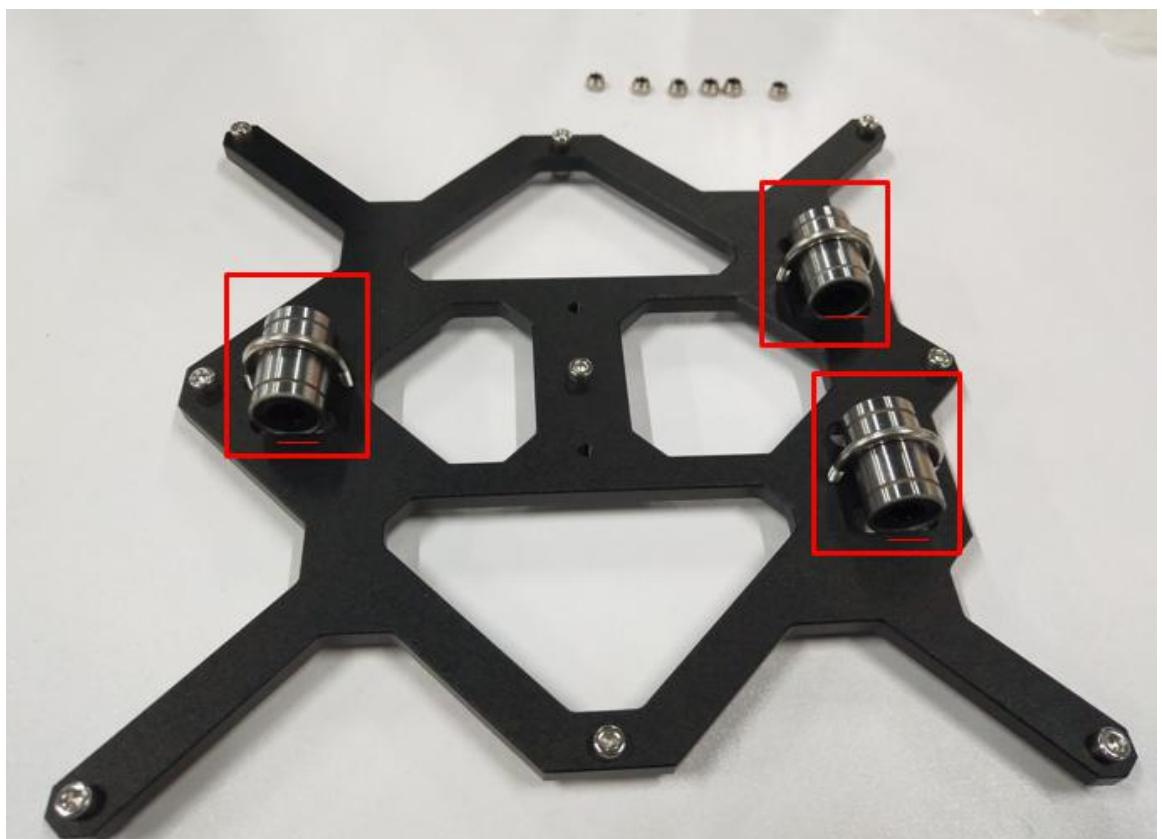

Figure 1.6.2
**Step 1-6-2:** Clamp 3pcs U-bolts to 3 pcs linear bearings respectively. The linear bearings are installed in the three linear bearing installation slots of the hot bed platform support plate. The end faces of the linear bearings are aligned with the platform clamps One side of the slot, as shown in Figure 1.6.2.